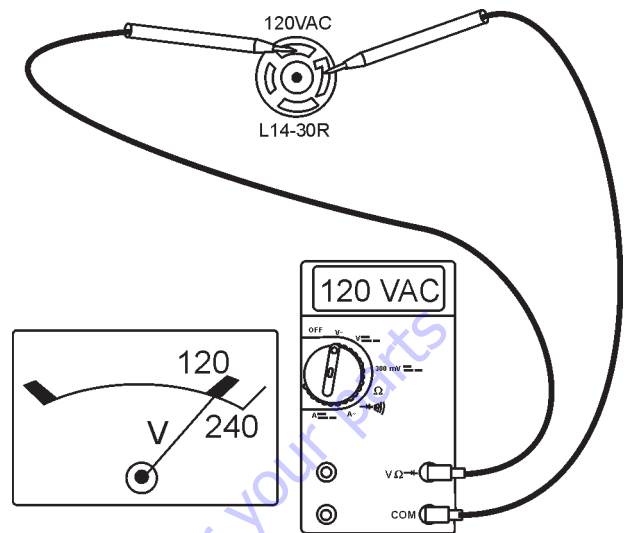
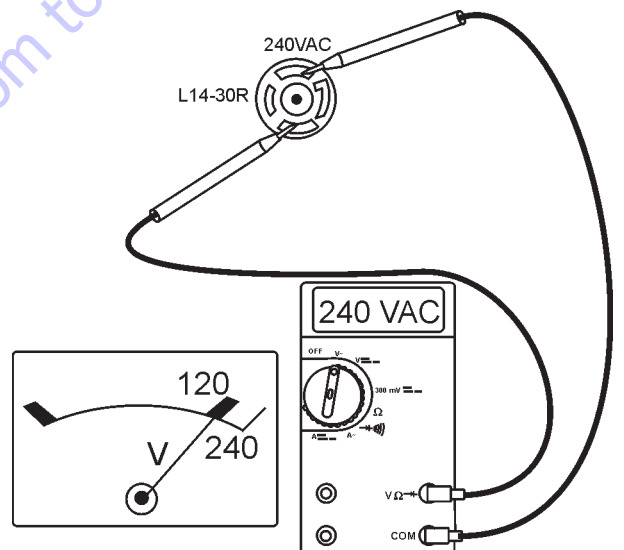

Figure 25. 120/240V Receptacle (120V)
Figure 26. 120/240V Receptacle (240V)
12. The L14-30R receptacle is a dual voltage receptacle (120-240 volts). Reference Figure 25 and Figure 26 to verify voltages at this receptacle.